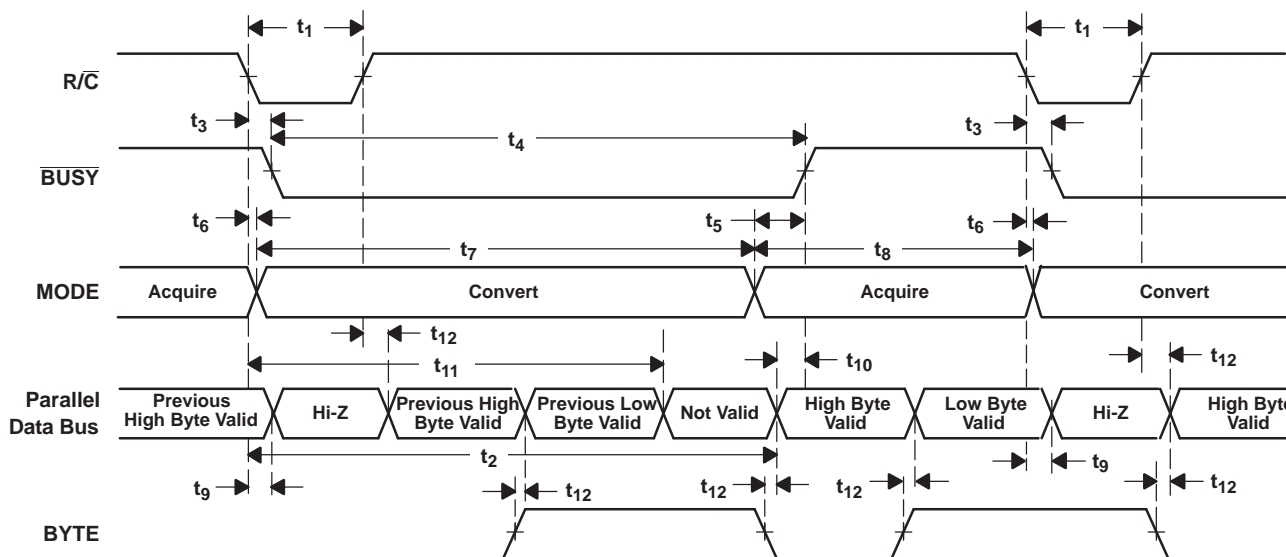
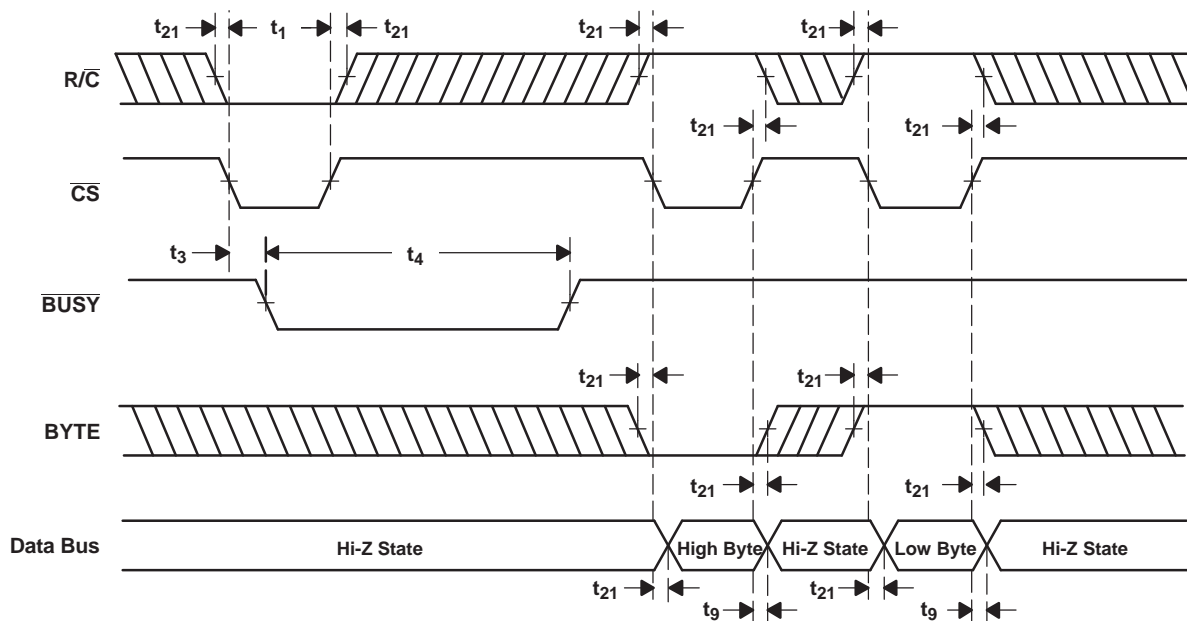

Figure 33. Conversion Timing With Parallel Output ($\overline{\text{CS}}$ and DATACLK Tied Low, $\overline{\text{EXT/INT}}$ Tied High)
Figure 34. \overline{CS} to Control Conversion and Read Timing With Parallel Outputs
The ADS8507 begins tracking the input signal at the end of the conversion. Allowing 25 μ s between convert commands assures accurate acquisition of a new signal. Refer to Table 2 and Table 3 for a summary of \overline{CS} , R/\overline{C} , and \overline{BUSY} states, and Figure 33, Figure 34, Figure 35, Figure 36, Figure 37, Figure 38, and Figure 39 for timing diagrams.
(1) See Figure 33 and Figure 34 for constraints on data valid from conversion *N*–1.
After conversion N is completed and the output registers have been updated, $\overline{\text{BUSY}}$ (pin 24) goes high. Valid data from conversion N is available on D7-D0 (pin 9-13 and 15-17). $\overline{\text{BUSY}}$ going high can be used to latch the data. Refer to Table 5 and Figure 33 and Figure 34 for timing specifications.
After conversion N has been initiated, valid data from conversion $N-1$ can be read and is valid up to 12 μs after the start of conversion N . Do not attempt to read data beyond 12 μs after the start of conversion N until \overline{BUSY} (pin 24) goes high; this may result in reading invalid data. Refer to Table 5 and Figure 33 and Figure 34 for timing constraints.